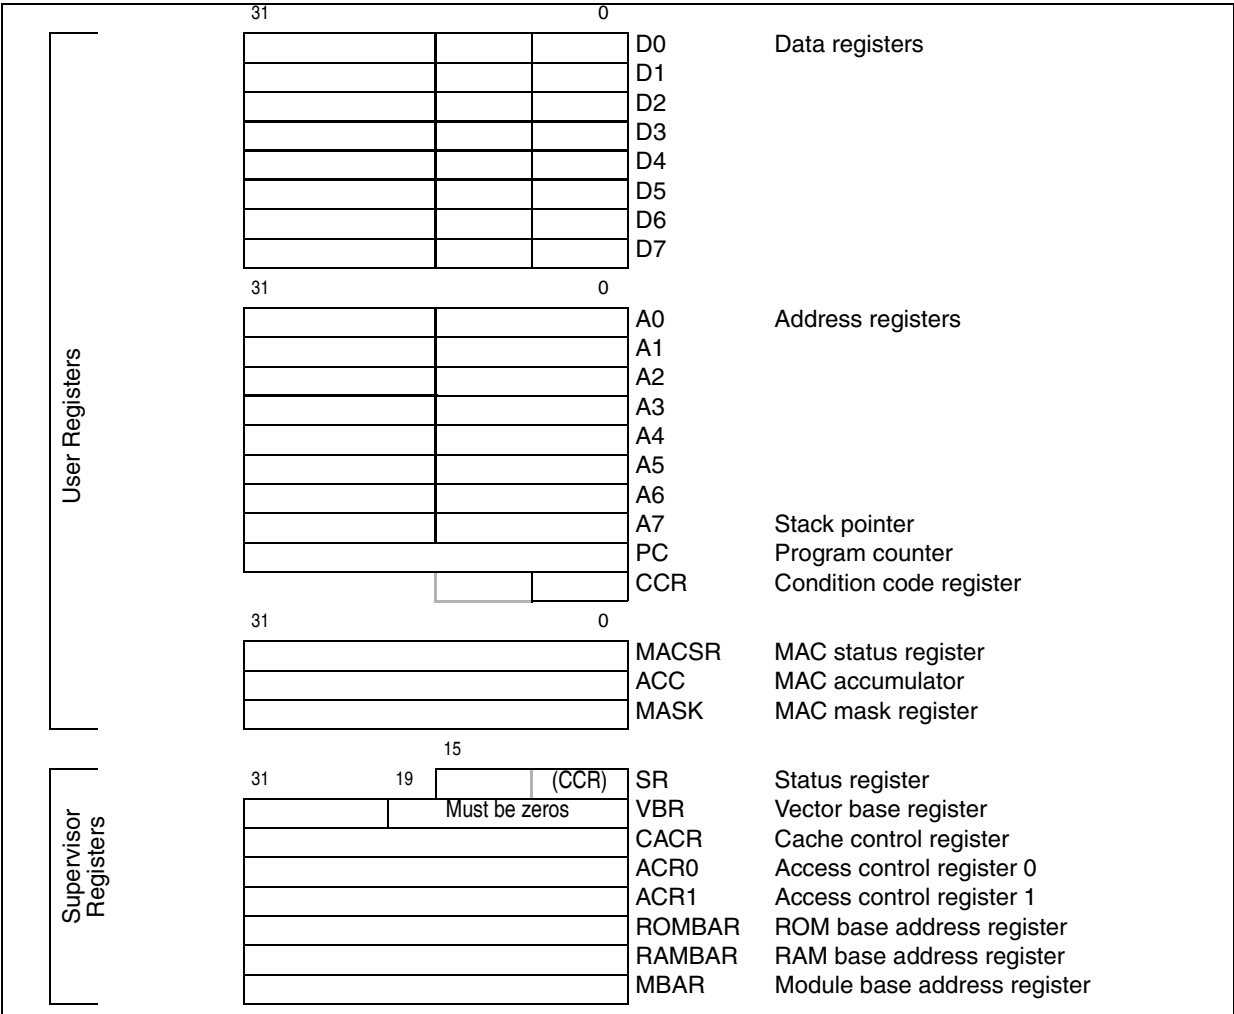

Figure 2-3. ColdFire Programming Model
As Figure 2-3 shows, the user programming model consists of the following registers:
The CCR, Figure 2-4, occupies SR[7–0], as shown in Figure 2-3. CCR[4–0] are indicator flags based on results generated by arithmetic operations.
Figure 2-3 shows the registers in the MAC portion of the user programming model. These registers are described as follows:
The MCF5272 supervisor programming model is shown in Figure 2-3. Typically, system programmers use the supervisor programming model to implement operating system functions and provide memory and I/O control. The supervisor programming model provides access to the user registers and additional supervisor registers, which include the upper byte of the status register (SR), the vector base register (VBR), and registers for configuring attributes of the address space connected to the Version 2 processor core. Most supervisor-mode registers are accessed by using the MOVEC instruction with the control register definitions in Table 2-2.